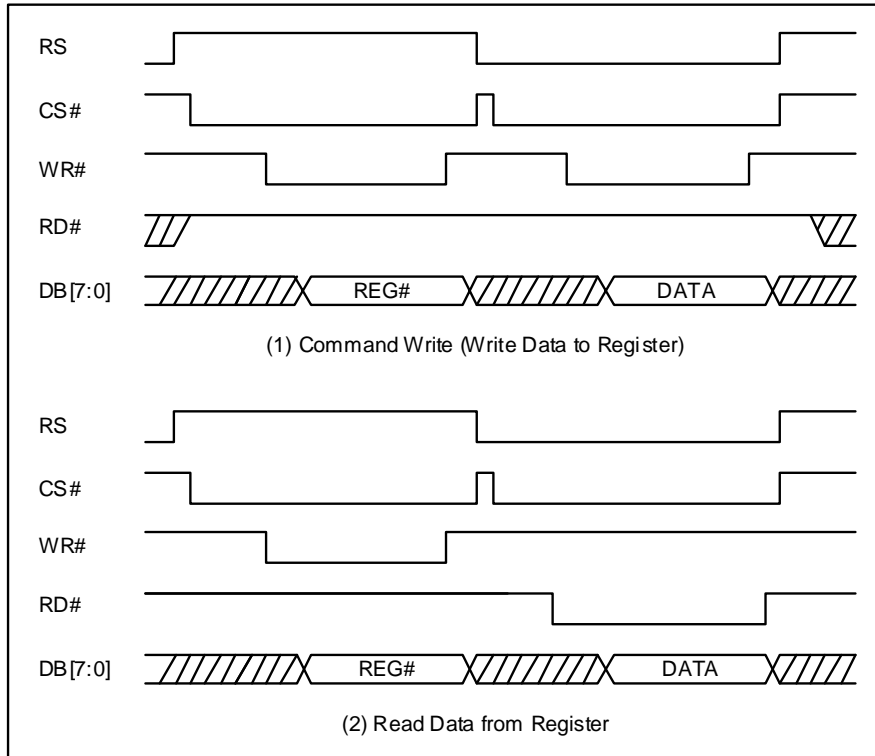

Figure 6-28 : 8080 Register Write/Register Read
RA8875 contains dozens of registers. If users want to write a command into the register of RA8875, they must execute the command write cycle first, i.e. the address of register, and then execute the data write cycle for storing a new data into the target register. So "Write Command" means that it will write a new data into the register. Please refer to the Figure 6-28 (1) for the related access timing.
To read the register contents of RA8875, it has to execute the command write cycle first, and then a "Data Read cycle" follows it. Please refer to the Figure 6-28 (2). But please note that the Figure 6-28 is based on 8080 interface.